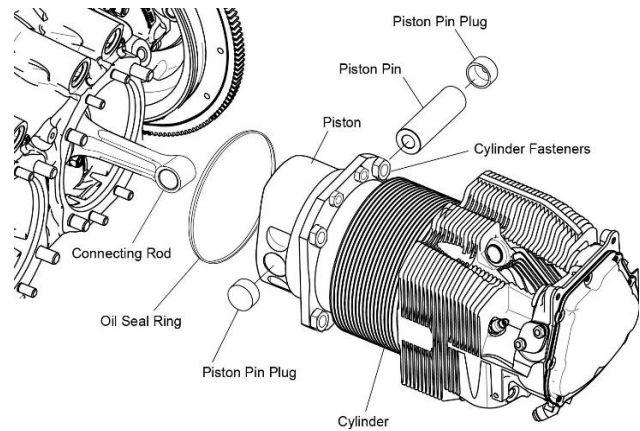

Figure 1
- B. Remove the cylinder fasteners at the base of each engine cylinder (Figure 1) to pull the cylinder out just enough to enable removal of the piston plugs and piston pin in the next step. **Do not pull the cylinder completely past the piston rings since it could require additional work and parts replacement.**
- E. Remove the oil seal ring (Figure 1) from the cylinder base and install it on the two studs in the crankcase to support the connecting rod as shown in Figure 2.